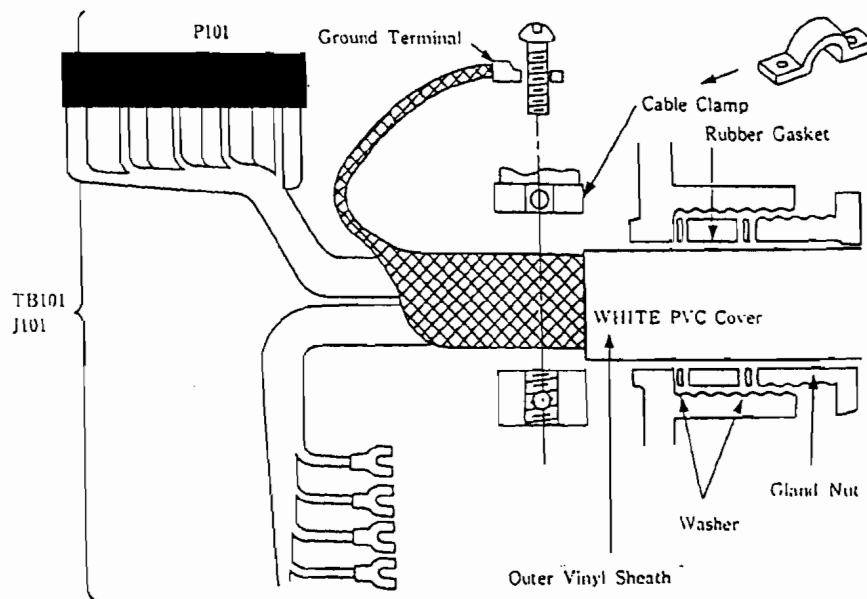

Fig. 2-14 ANTENNA PEDESTAL UNIT CABLE CONNECTION PROCEDURE
The cable inlet of the antenna pedestal unit is located in the right rear corner of the pedestal base assembly (see Fig. 2-14). Verify whether the interunit cable is already connected at the display unit. If connected, disconnect the 16-pin connector before installing the cable at the pedestal to prevent any live voltages on the cable wiring.
- 3) Insert the gland nut washers and rubber gasket on the cable in the order shown in Fig. 2-14. Screw the gland nut loosely into the cable gland.